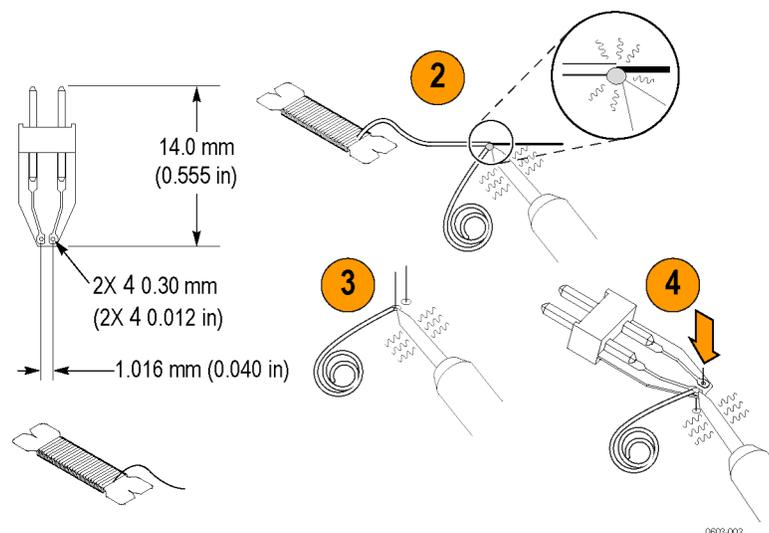

Figure 8: Install the adapter to the SUT with the insulated wire
2. Use a soldering iron to melt the insulation on the wire to connect the adapter to the SUT. (See Figure 8 on page 13.)
3. Solder one end of the wire to the circuit board as shown. (See Figure 8.)